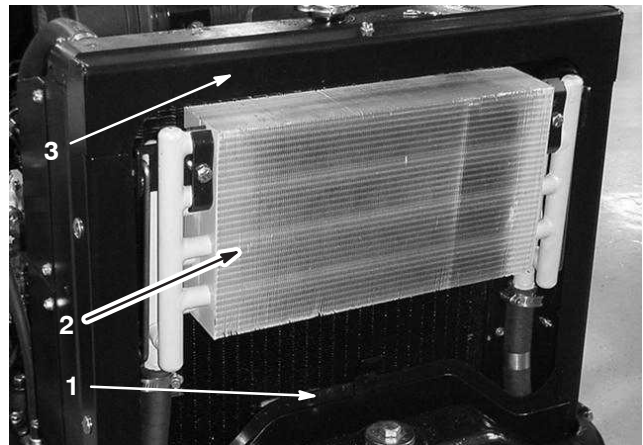

Figure 42
2. Remove the access panel (Fig. 42).